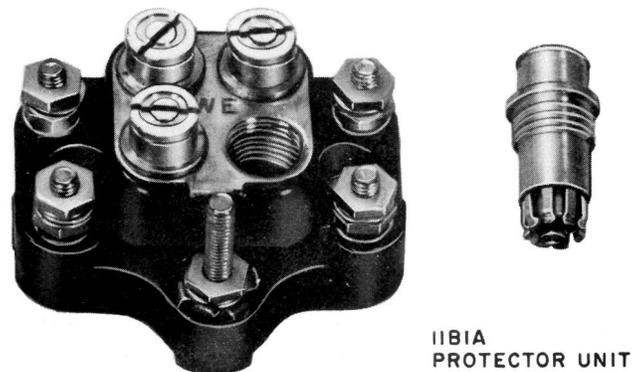

Fig. 8—128E1A-2 Protector
3.07 The **128E1A-2 protector** (Fig. 8) provides protection for two pairs of wires. It consists of a nonconductive base containing five binding posts and four 11B1A protector units. The bottom left and right binding posts are tip and ring for the first line, and the top left and right binding posts are tip and ring for the second line. The two bottom 11B1A protector units protect the first line and the two 11B1A protector units protect the second line. The center binding post is the ground terminal. The 128E1A-2 protector should be grounded with a No. 12 ground wire (Table B) and may be used anywhere the 128A1A-2 protector is used.